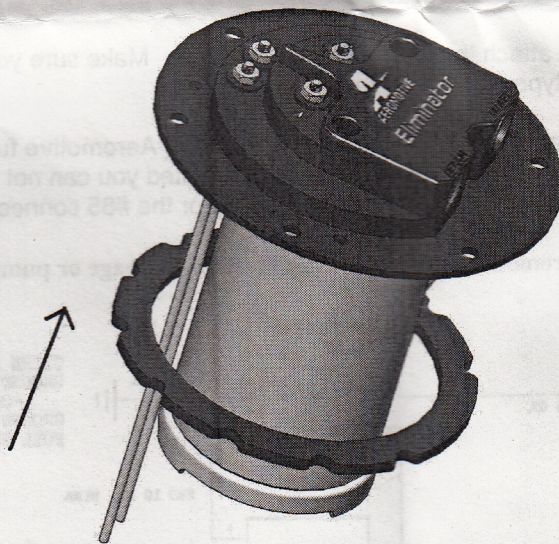

FIGURE 1-2
10. Before placing the new Aeromotive Stealth assembly in the tank, install the new pump-to-tank gasket. It only goes on one way, rotate the gasket till all the bolt holes line up. FIGURE 1-2